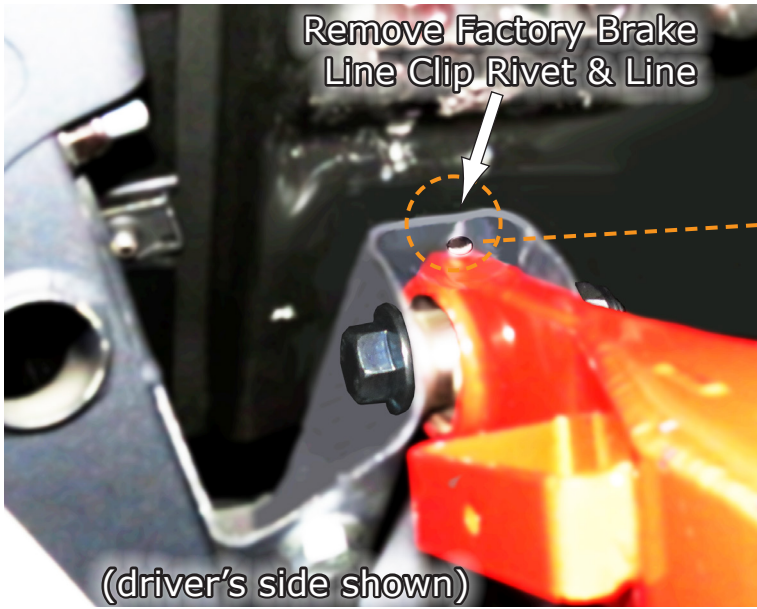

Fig.1a
1. The first thing you need to do is **Remove** the **Pop-Rivet** from the frame clevis that holds the **Factory Brake Line Clip** as shown in **Fig.1a-b**. Then **Remove Factory Bolt** as shown in **Fig.1c-d**. (can drop this end of arm down out of the way if needed).